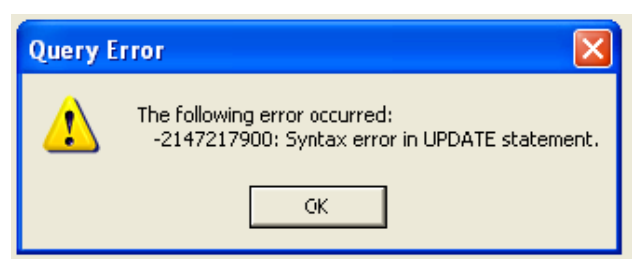

Figure 19: Query error message
- A “Query Error” message appears if the operation is unsuccessful (see example in Figure 19).